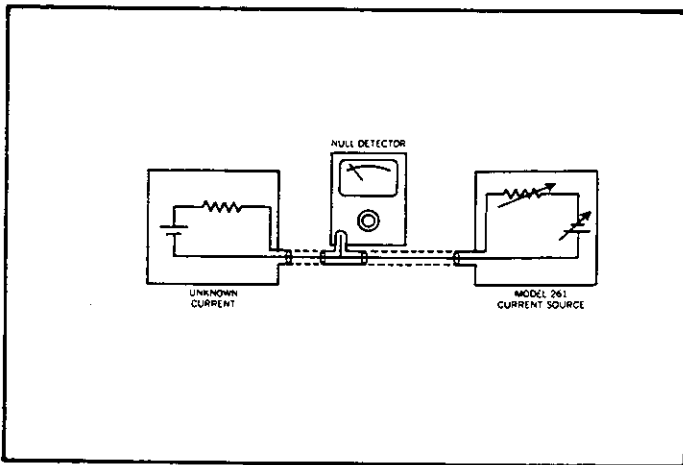

FIGURE 7. Galvanometric Measurements.
**c. Galvanometric Current Measurements.** In this method the 610C is used as a null detector. The 610C should be used in conjunction with an accurate current source such as the Keithley Model 261 as shown in Figure 7.